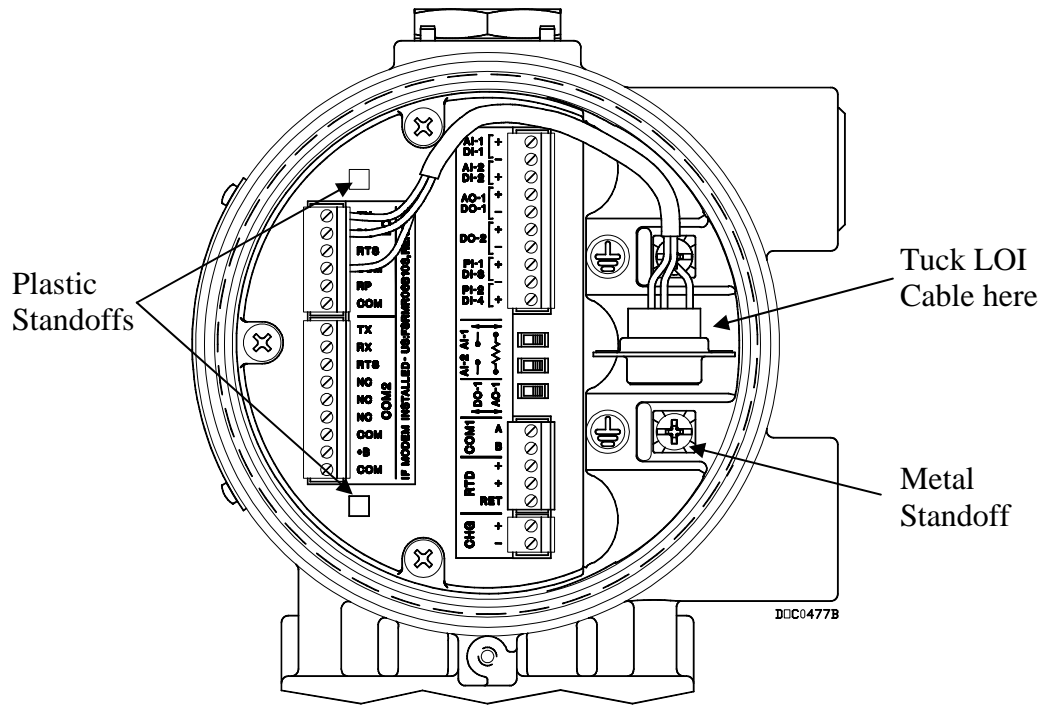

Figure 4-3. Termination Board
Wiring should be twisted-pair cable. The terminals and their functions are Pin 1 is Terminal B and Pin 2 is Terminal A. Refer to Figure 4-3. Connect A on the FloBoss to A or +, and connect B on the FloBoss to B or -. Should you encounter difficulties establishing a connection, try reversing the connections.
3. Use a Phillips head screwdriver to unscrew the lower grounding screw to the right of the termination board. Screw the metal standoff into the hole. Refer to Figure 4-3.
4. Push plastic standoffs into holes at top and bottom of the left side of the termination board. Refer to Figure 4-3.
5. Tuck the LOI interface cable and connector off to the upper right corner of the termination board. Refer to Figure 4-3.